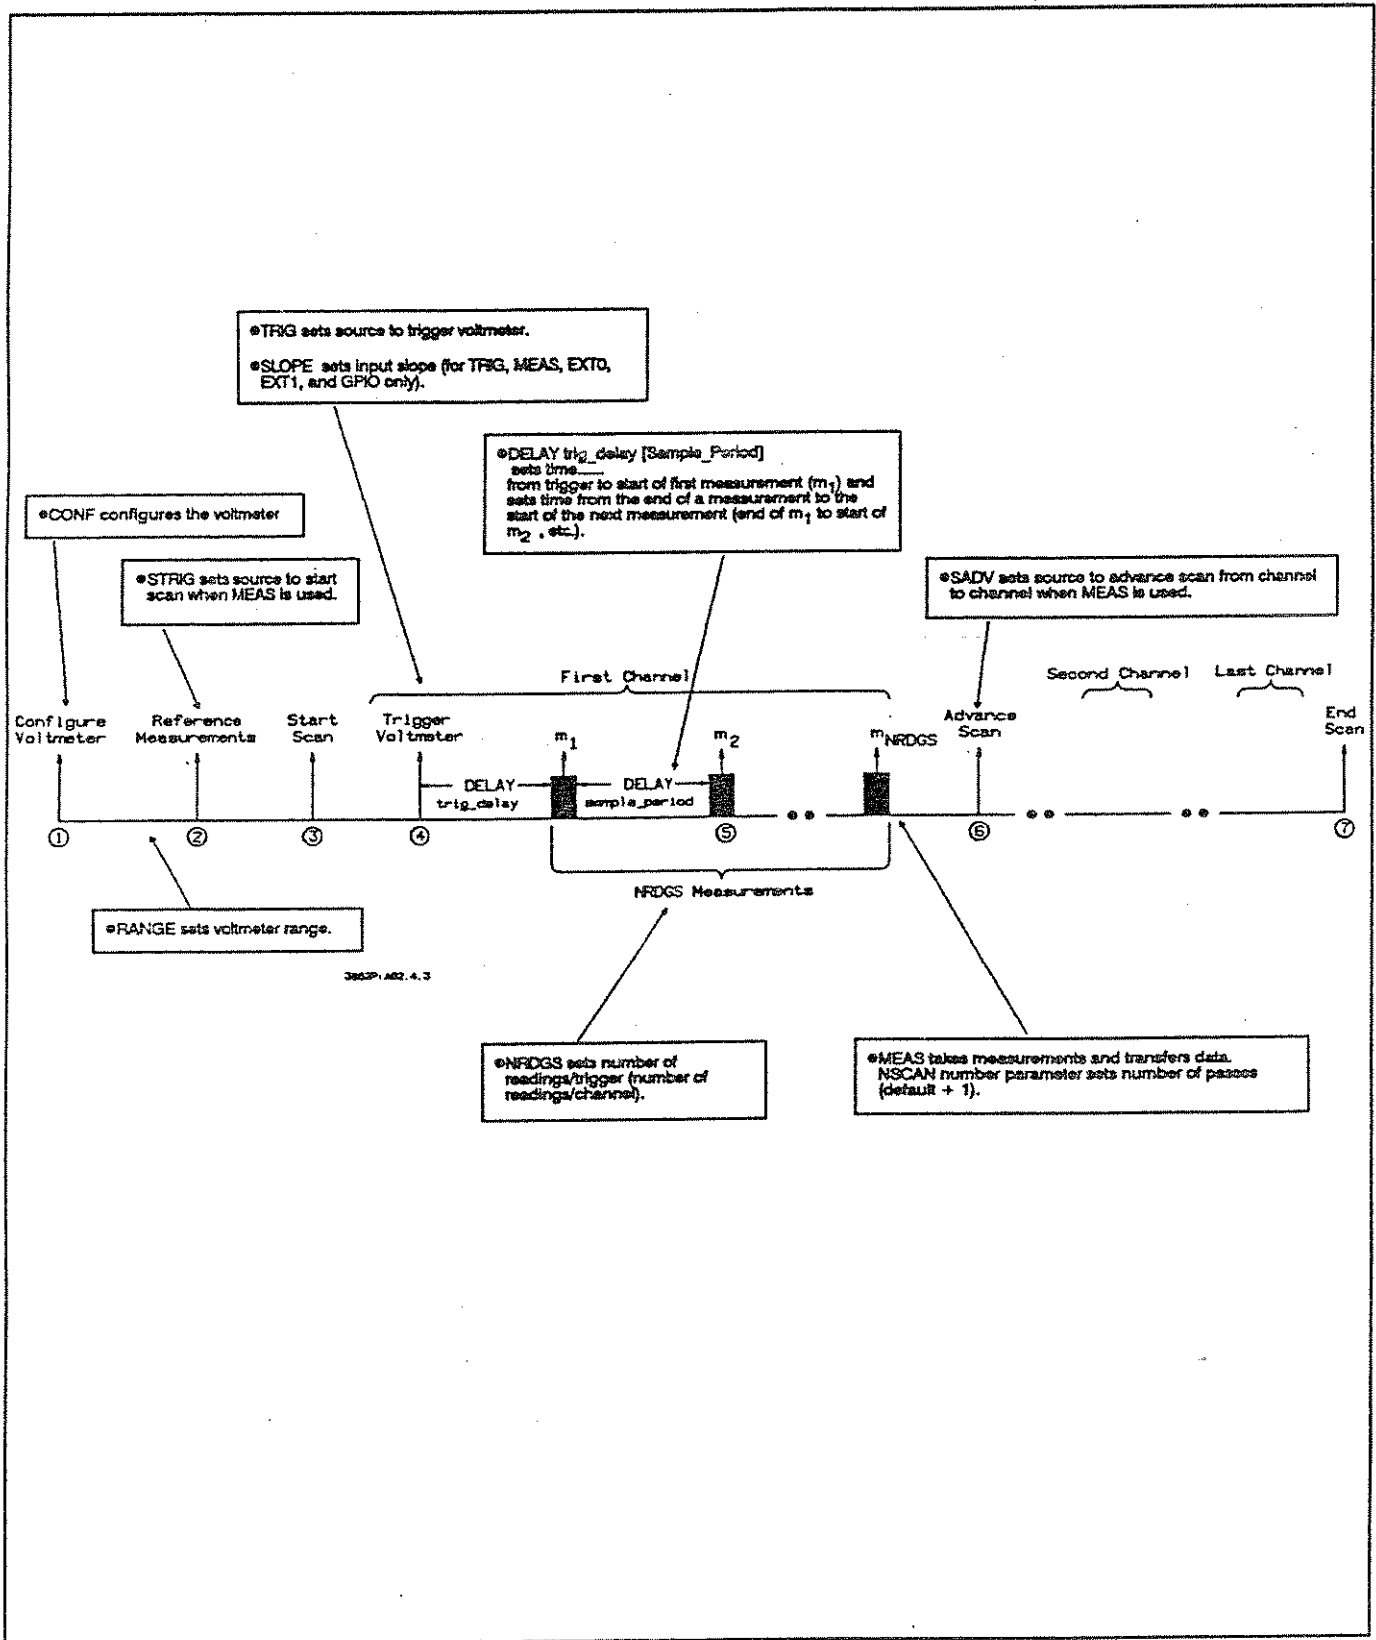

Figure 4-3. CONF and MEAS (System Mode) Operation
Figure 4-3 shows voltmeter operation when CONF and MEAS are used in System Mode and also shows how seven low-level commands (DELAY, NRDGS, RANGE, SADV, SLOPE, STRIG, and TRIG) can be used to modify voltmeter settings). (Note that CONF does not change the previous setting of SLOPE.) A summary of voltmeter operation and the related commands shown in Figure 4-3 follows.
As shown in Figure 4-3, since the voltmeter makes NRDGS *number* readings on each channel in the channel list, the total number of readings taken is the number of channels in the channel list times the number of readings per trigger times NSCAN.
**Setting Measurement Delays (DELAY)** CONF sets a 1 msec delay from the trigger to the first measurement on each channel and sets a 10  $\mu$ sec period between each measurement (such as  $m_1$  to  $m_2$  in Figure 4-3). For System Mode (only) both the delay and the sample period can be changed with the DELAY command.
For example, DELAY 0.01,1 sets a 10 msec delay from the trigger to the first measurement, and sets a 1 second period from the start of a measurement to the start of the next measurement on the channel (such as  $m_1$  to  $m_2$  in Figure 4-3).